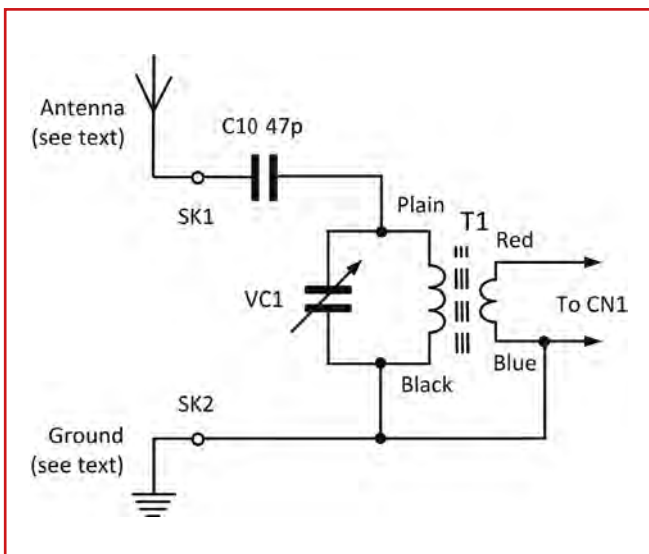

Fig.11. Tuned circuit 'off-board' components
FIG.9 shows our complete radio circuit ready for PCB conversion. Note that we have used three-pin terminal blocks in place of potentiometers VR1 and VR2 as *Circuit Wizard* does not offer an off-board option during the PCB conversion wizard process and we intend these to be case mounted. Note that the ‘tuned circuit’ is also to be mounted off-board (refer to Fig.11).
A miniature variable capacitor (Rapid part 12-0255) was used as part of the tuned circuit arrangement connected to CN1 (see Fig.11). This is a dual component, designed for use in 'superhet' radios that have both antenna and local oscillator tuned circuits. In the *Simple Radio* we only need to use the larger component, which has a maximum value of 141.6pF, but for a wider frequency coverage the two capacitors can be connected in parallel to provide a maximum value of 200pF.
- 1 47pF ceramic capacitor (C10) (see Fig.11)